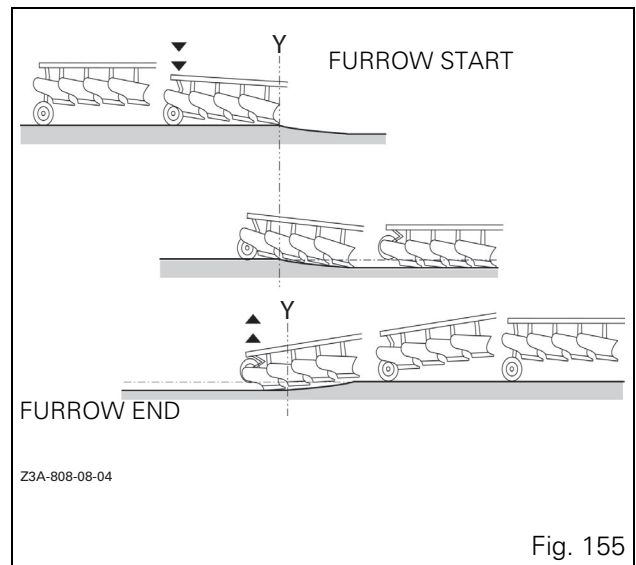

Fig. 155
- a semi-mounted rear implement, with the REAR DUAL CONTROL (e.g.: a semi-mounted plough (Fig. 155), a semi-mounted disc tiller, etc. These implements being hitched to the rear linkage),